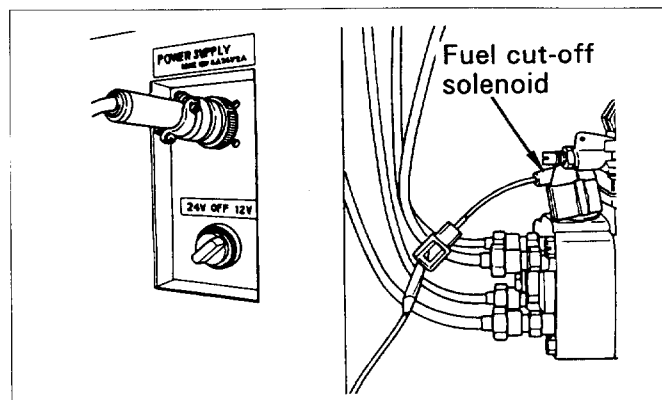

Fig.15-9 Applying prescribed voltage to the fuel-cut solenoid
(9) Connect the proper voltage to the shut-off solenoid (See Fig.15-9) and energize.